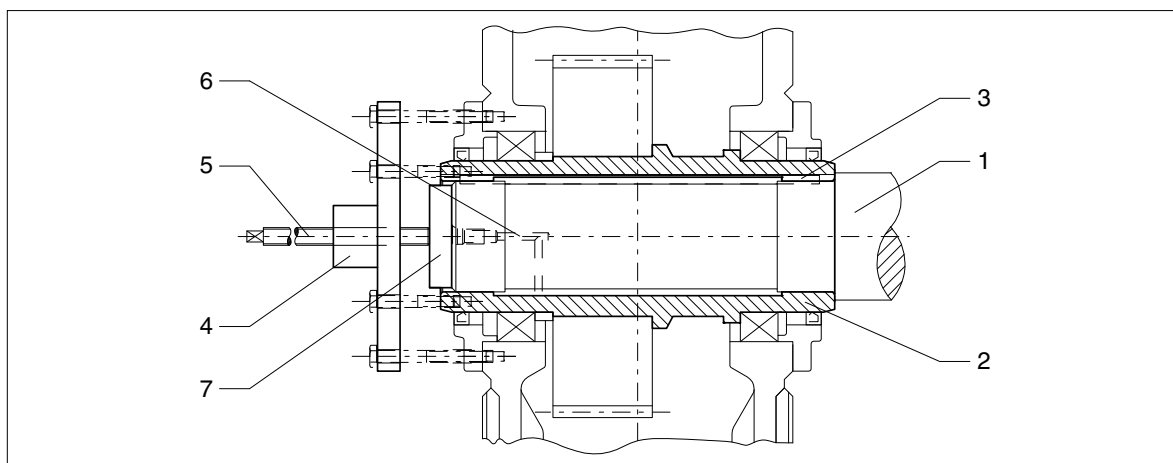

Fig. 42: Hollow shaft with parallel keyway, demounting with hydraulic cylinder
- When the rust-releasing agent has taken effect, pull the gear unit off using the device (see figures 42 and 43).
If the support is provided not only by the hollow shaft, but also by the housing, when forcing the gear unit off, as shown in figure 42, the forces used must not exceed the values given in table 13 below.